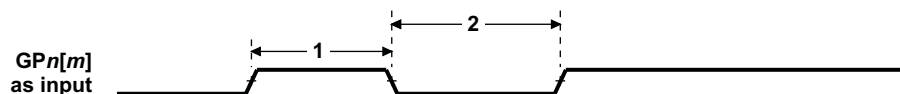

**Figure 6-77. GPIO External Interrupt Timing**
**Table 6-114. Timing Requirements for External Interrupts(1) (see Figure 6-77)**